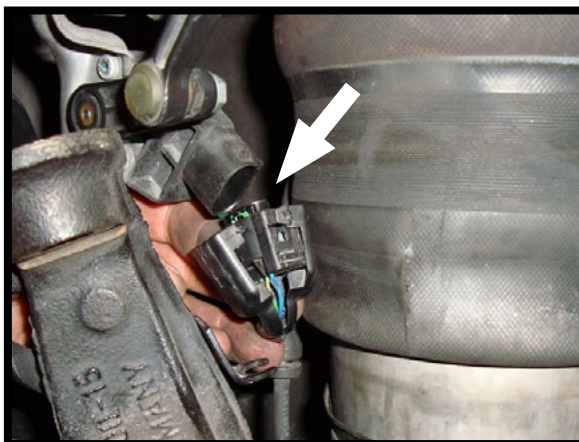

FIGURA 10-7
8. DESCONECTE EL CONECTOR DEL SENSOR DE ALTURA REGULABLE. (FIGURA 10-7)